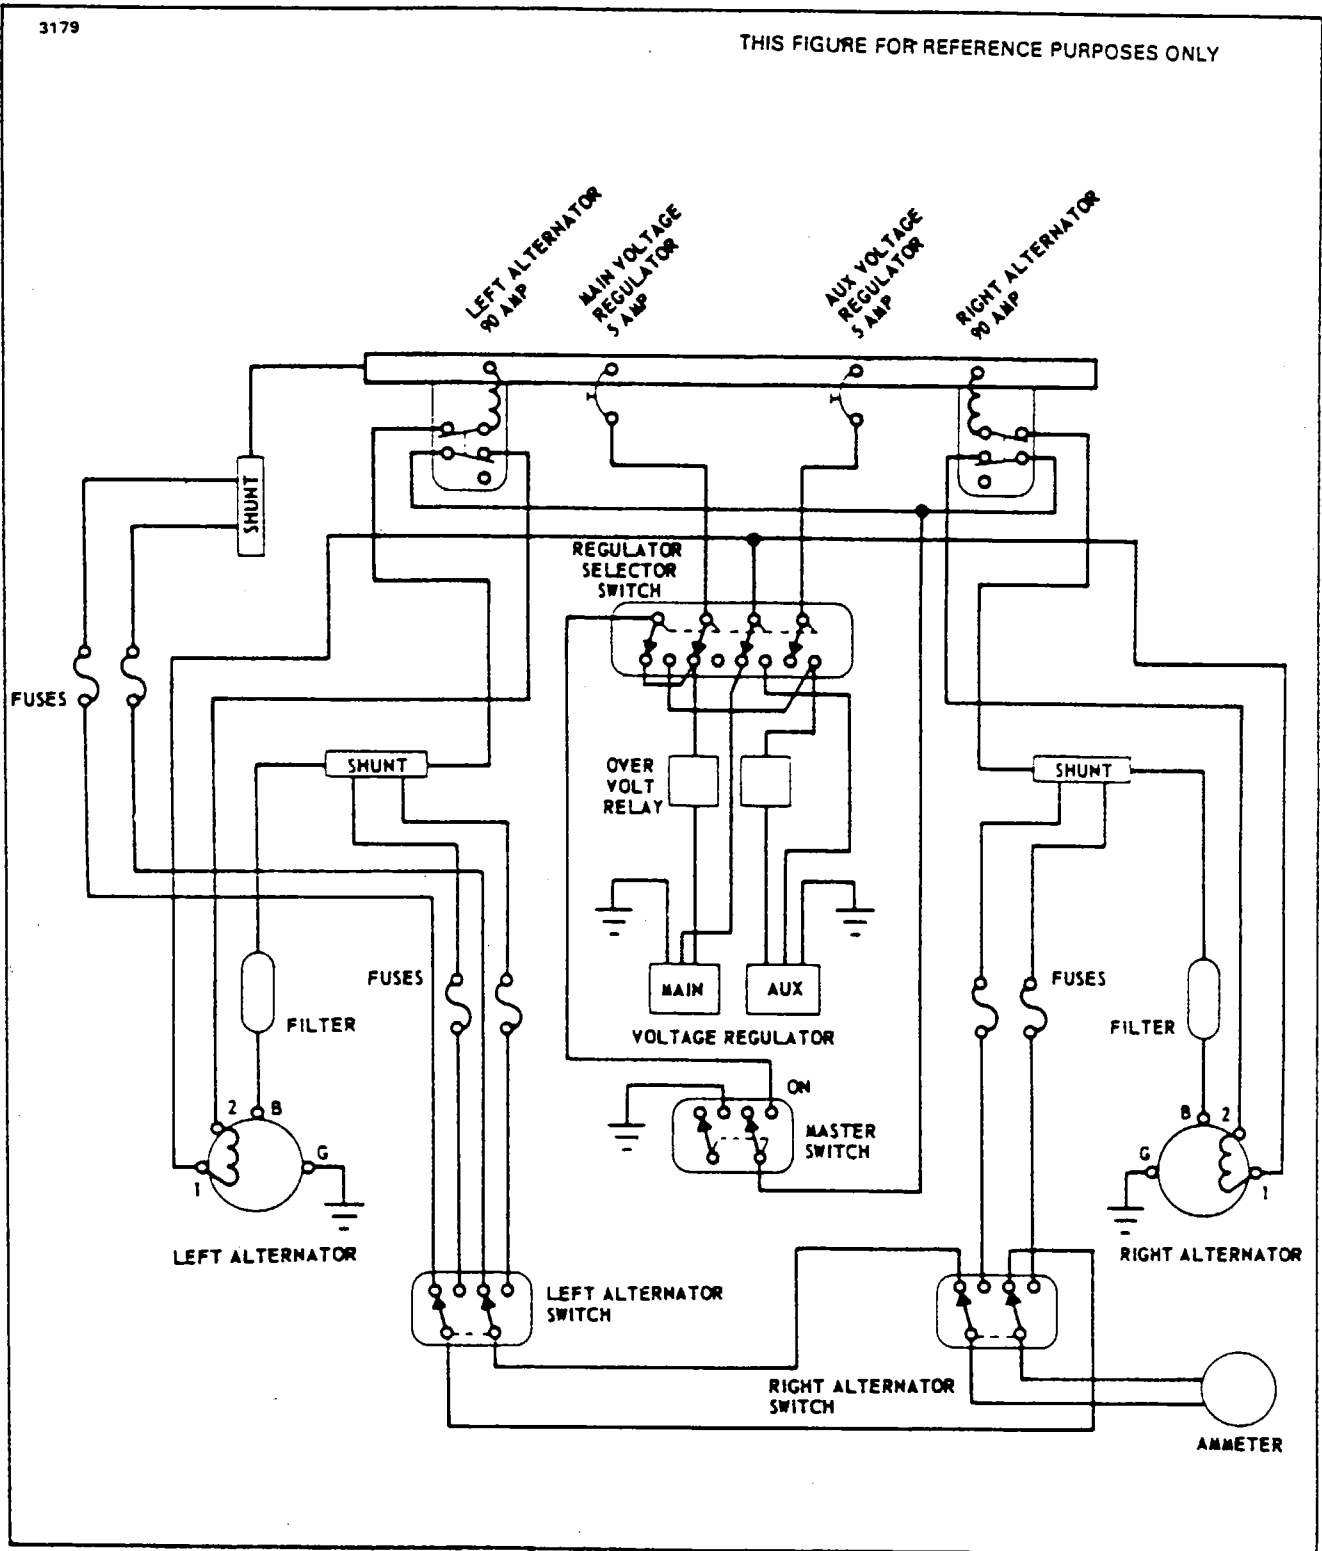

Figure 11-17. Dual Alternator Wiring System (Prestolite)
11-27. CHECKING ALTERNATOR SYSTEM. The ammeter is equipped with two selector switches which enable an independent output check of each alternator, as well as the electrical output-input of the battery. Should either alternator show no output on the ammeter, check the appropriate circuit breakers. If a further check of the ammeter shows no output from both alternators, switch to the auxiliary voltage regulator and overvoltage relay. If switching to the auxiliary system indicates no electrical output, further check the alternator system. (Refer to Figure 11-17.)
g. Should there be no indication of voltage, trace back through the output circuit until voltage is indicated. (Refer to Figure 11-17.) A component that allows no voltage to pass through it should be replaced.
Always refer to the wiring diagram (Refer to Figure 11-17.) when installing the alternator or testing the alternator.